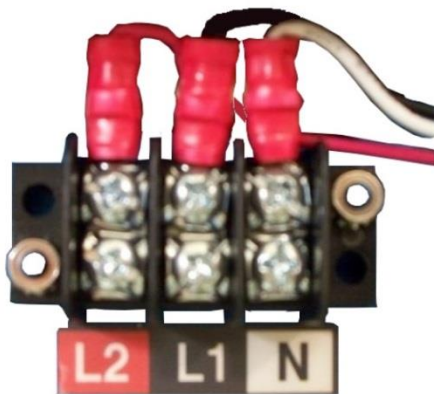

Figure 8: Voltage terminal block
5. For connections to the voltage terminal block (see example in Figure 8), strip wiring to approximately .300 inches and connect to the appropriate terminals. Wires should be tightened so that they are held snugly in place, but do not to over-tighten, as this may compress and weaken the conductor.